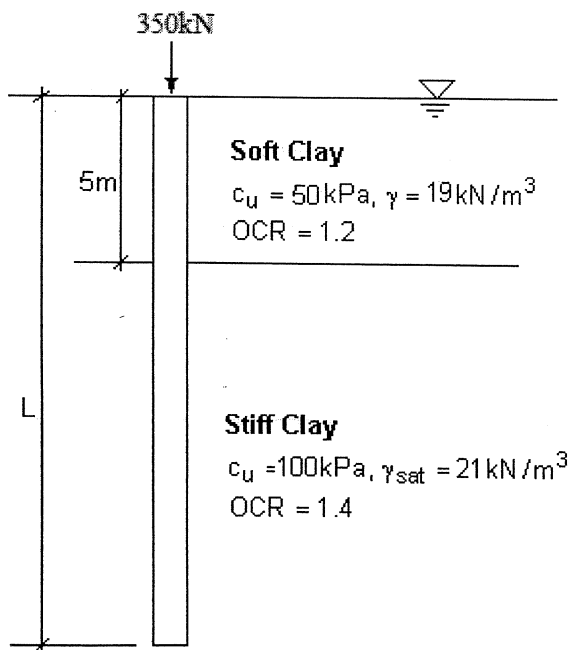

Fig. 8
- C. Determine pile length, L required to support the load shown in Fig. 8. The pile diameter is 450mm. A factor of safety of 3.0 is to be maintained. (10 points)